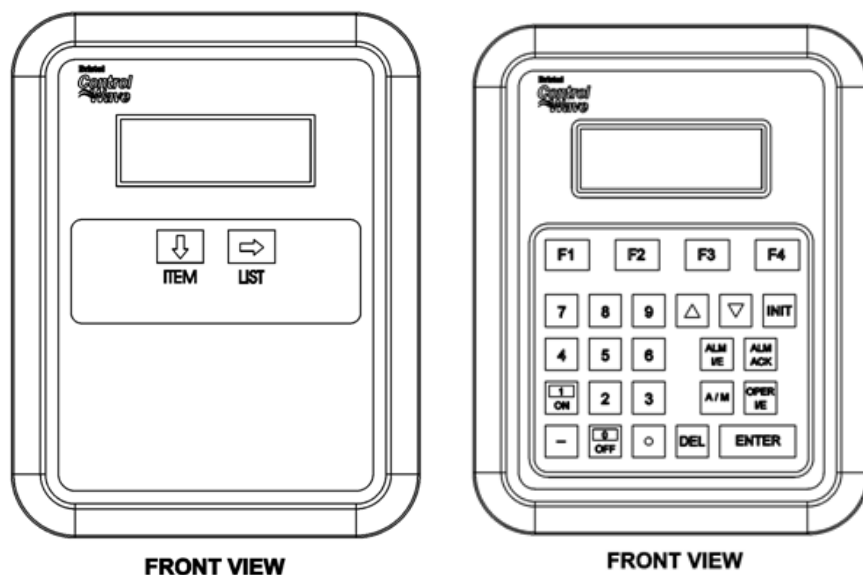

Figure 2-24. Optional 2-Button and 25-Button Keypads
- A 2-button keypad (shown in the left of *Figure 2-24*)
- A 25-button keypad (shown in the right *Figure 2-24*)